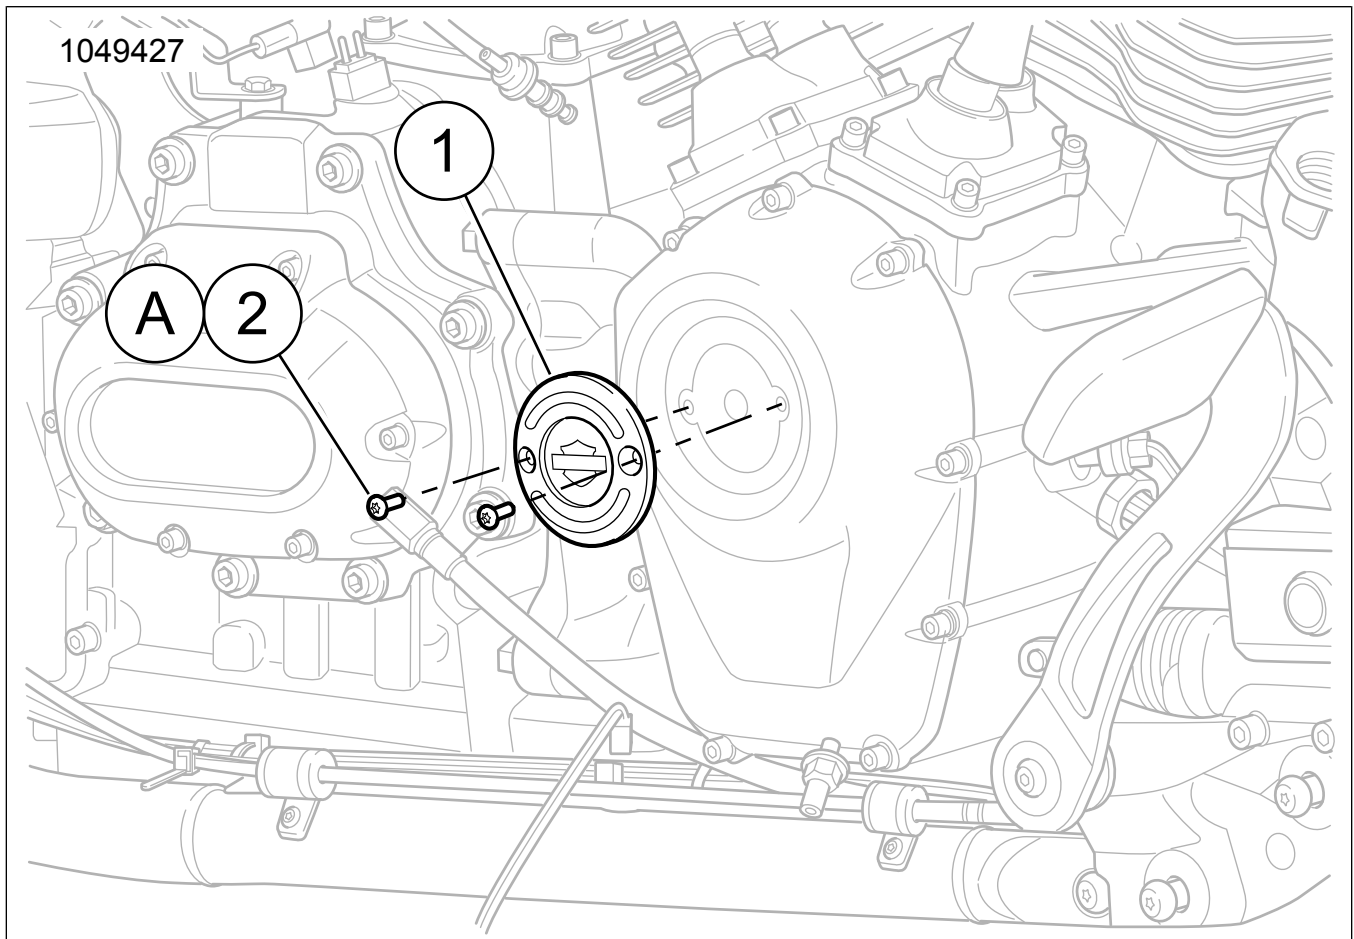

Figure 1. Kit Contents: Timer Cover Components
1. See Figure 1. Remove Original Equipment (OE) screws. Discard.